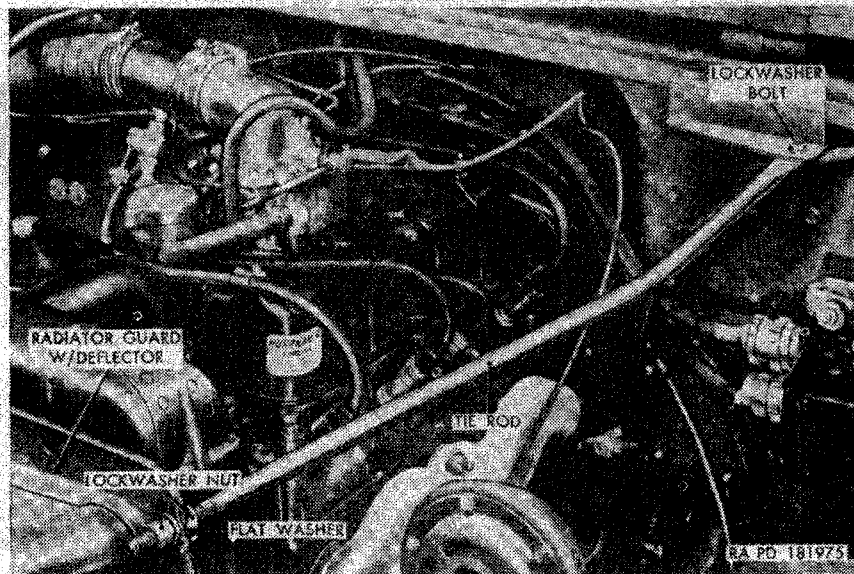

Figure 194. Dash-to-air deflector tie rod—installed on left side of radiator guard.
(1) Proceed as directed in paragraph 257a(1) through (4).
(2) Loosen the outer lockwasher nut (fig. 194) on each of the two dash-to-air deflector tie rods sufficiently so that flat washers on the rod will clear the projections on the air deflector of the radiator guard with deflector. Pull the rods outward until they are clear of the deflector.
- (4) Pull the rubber washer from the bottom of the spacer installed in the bracket on the frame front cross member. Lift the other rubber washer with the spacer from the top of the bracket.
- (5) Remove the nut and lockwasher bolt (fig. 194) securing the rear of each tie rod to the bracket on the dash. Remove the two tie rods.
- (6) Proceed as directed in paragraph 257a(6) and (7).
- (4) Enter the two lockwasher screws on the bottom of the guard into the mounting slots in the fenders. Enter the four lockwasher screws in the fenders into the mounting slots of the guard. Tighten all six screws.
- (5) Tighten the $\frac{7}{16}$ -inch locknut installed on the bolt at the bottom of the guard.
- (6) Secure guard to radiator by screwing two $\frac{5}{16} \times \frac{5}{8}$ bolts into the radiator-to-guard panel clips on each side of guard.
- (7) Position the flat end of each dash-to-air deflector tie rod on the bottom of the bracket on the dash. Secure each rod to bracket with one $\frac{5}{16} \times \frac{7}{8}$ lockwasher bolt (fig. 194) and $\frac{5}{16}$ -inch nut.
- (8) Insert the front end of each rod between the projections on the deflector of the guard, making sure a flat washer is on each side of the projection. Tighten the outer $\frac{3}{8}$ -inch lockwasher nut (fig. 194) on each rod to brace the guard.
- (9) Proceed as directed in paragraph 257b(5) and (6).